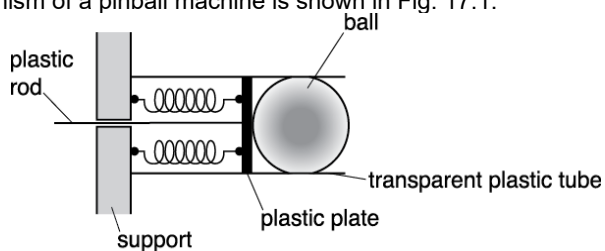

Fig. 17.1
19. The ball-release mechanism of a pinball machine is shown in Fig. 17.1.
Explain why the force constant of the two springs in parallel in Fig. 17.1 is equal to $2k$.